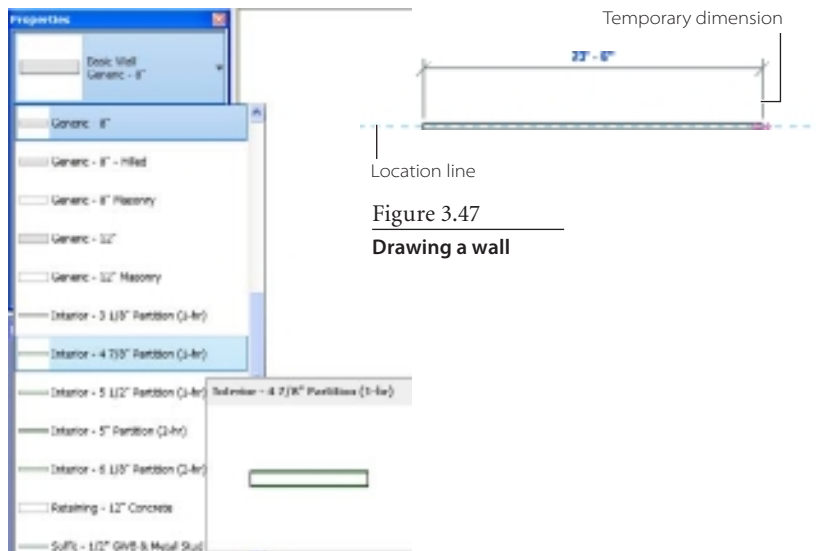

Figure 3.47
4. Anywhere in the drawing window, click a point, and then move your mouse pointer to either the left or the right (Figure 3.47). As you start to draw, Revit will display a temporary listening dimension. As you drag your mouse, you can use this as a reference, or you can directly enter a distance value. To do this, after you pick a start point, just type in the value for the length of the wall, and press Enter. The light blue dashed line indicates the location line.